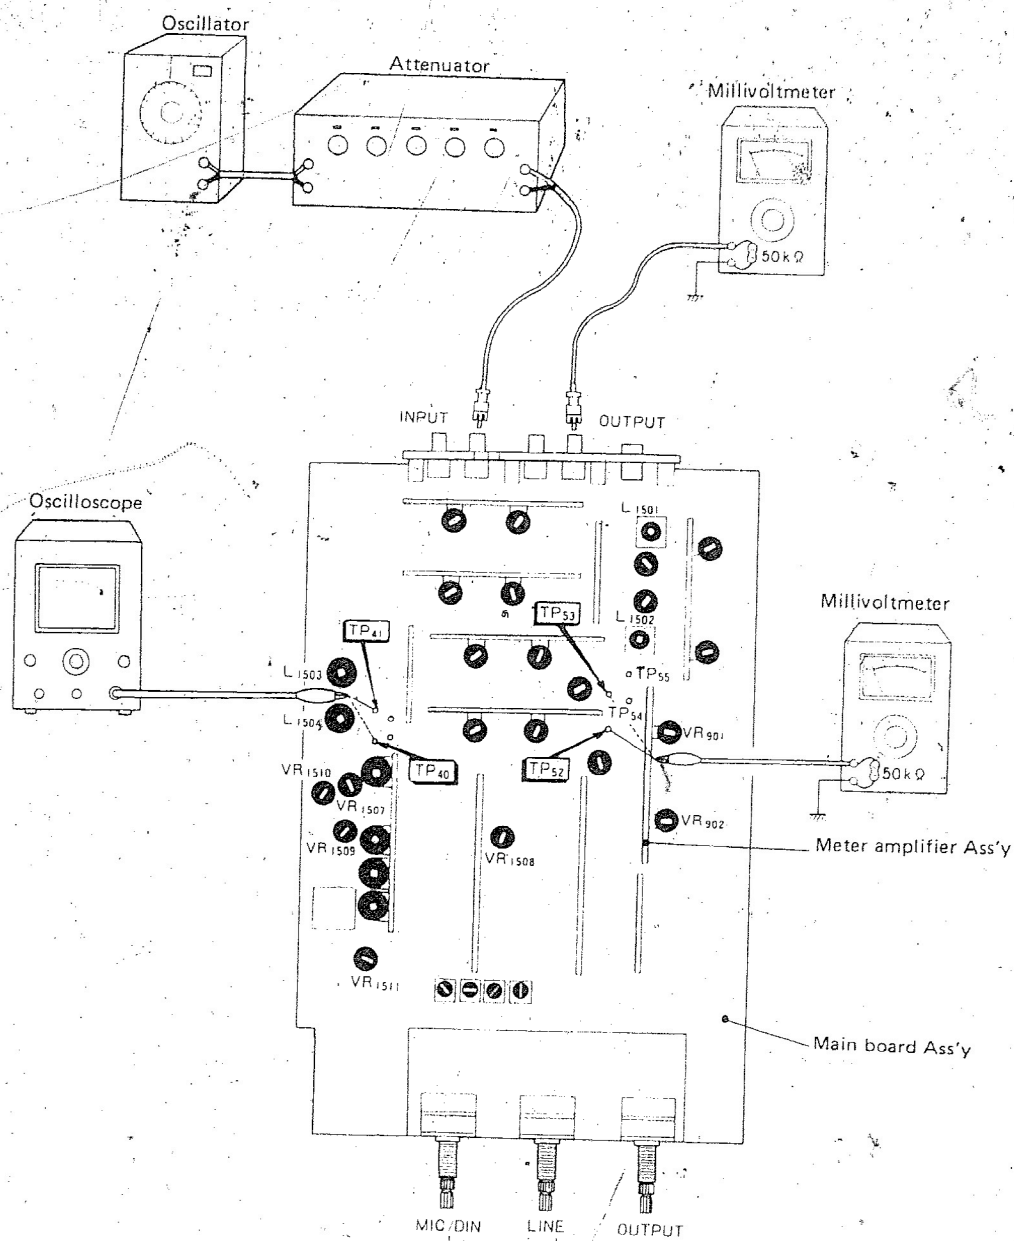

Fig. 27
1. Connect meters to the T.P. terminals No.53 (L. ch) and No.52 (R. ch) of the main board as shown in Fig. 27. Also connect both meters to ground.
1. Connect oscilloscopes to T.P. terminals No.40 (L. ch) and No.41 (R. ch) on the main board as shown in Fig. 27.
1. Apply the 333Hz, -10dBv (316mV) signal to the input terminals. Connect a meter to the output terminals, and adjust the line volume control so that the voltage reads -7dBv (447mV) (see Fig. 27).
1. Connect a meter to the line output terminals, and then apply a 333Hz, -30dBv (31.6mV) signal to the input terminals (see Fig. 27).
1. Connect a meter to the output terminals, and apply a 333Hz, -10dBv (316mV) signal to the input terminals. (See Fig. 27).
1. Connect a voltmeter to the output terminals, and apply the 333Hz, -10dBv (316mV) signal to the input terminals (see Fig. 27).